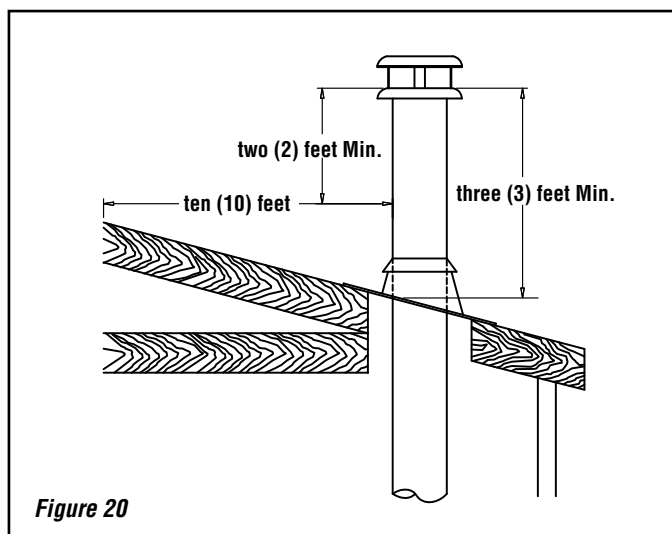

Figure 20
5. All chimney installations must include at least one support in order to be able to take any lateral load. The maximum chimney length that can be supported by the fireplace is nine (9) feet (2.75 m) for Secure Temp S2100+ / Nova Temp HT6000+ / Secure Temp GX and 26 feet (8m) for ACBI chimney. In altitude, add 18" (450 mm) to the chimney for every 2,000 feet (600 m) above sea level.
6. The chimney must extend at least three (3) feet (915 mm) above its point of contact with the roof and at least two (2) feet (610 mm) higher than any wall, roof or building within ten (10) feet (3 m) of it (**Figure 20**).
7. If the chimney extends higher than five (5) feet (1,500 mm) above its point of contact with the roof, it must be secured using a roof brace.